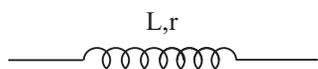

Fig. 24.1: Symbol of an inductor
- Symbol of an inductor is as shown in Fig. 24.1. Here  $L$  and  $r$  stand for the self inductance and resistance of the inductor respectively.